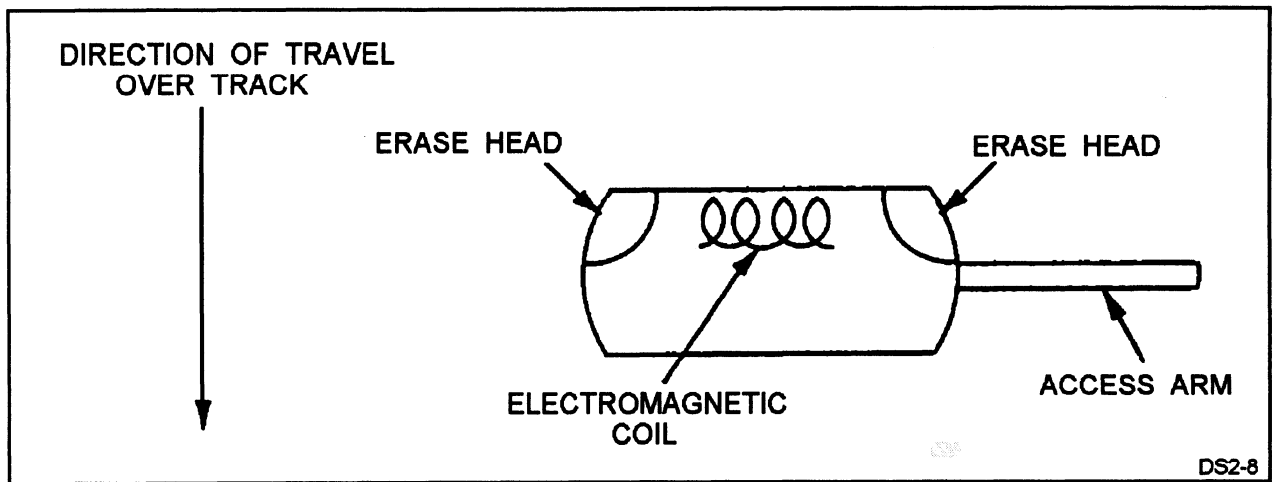

Figure 10-8.—Construction of a floppy disk drive read/write head.
**HEAD CONSTRUCTION.** —Heads are made of a soft ferrous material with electromagnetic coils for reading and writing. The read head picks up changes in magnetic flux as the disk moves past the head surface. An electric current fed through the write head creates a magnetic field around it. If the force of the magnetic field is strong enough, the area on the disk is also magnetized. By controlling the direction of current flow through the head, we can also control the direction of the magnetic field. The write (record) head is centered between two erase heads. Figure 10-8 illustrates the construction of a floppy disk drive read/write head.